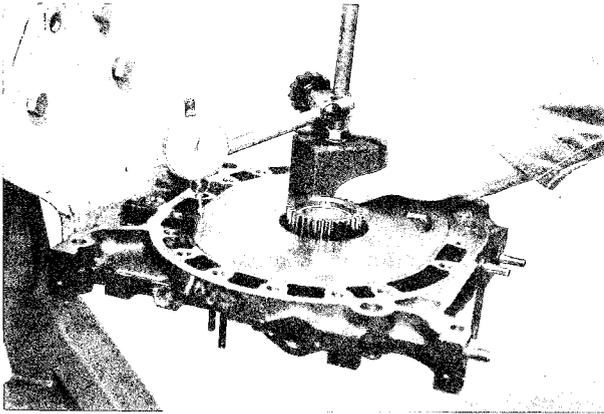

Fig. 1-27 Checking housing for wear
2. Check for wear on the rotor sliding surfaces of the housing and joint surfaces with rotor housing as shown in Fig. 1-27.